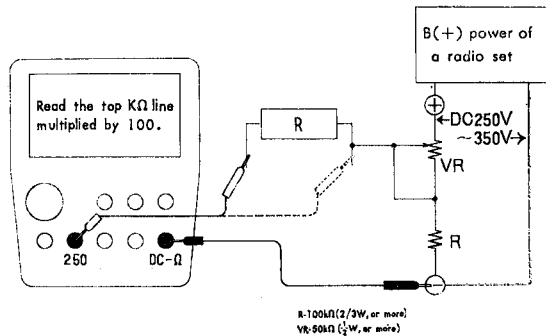

Fig. 6
The resistance range of the meter can be extended up to 10 megohms by the use of an external power (DC 250 volts) jointly, for which B (+) power of a radio set is available. See Fig. 6 for the connections of the external power.
- Connect the red test lead as shown by the dotted line and bring the pointer to full scale deflection by adjusting the DC power voltage. In the Fig. 6, $R=100k\Omega$ ($\frac{2}{3}W$ or more) and $VR=50k\Omega$ ($\frac{1}{2}W$ or more).